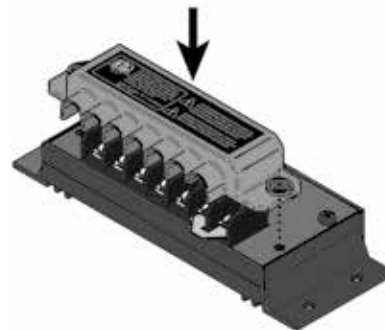

Figure 8b. Place the Terminal Block Cover.
Next, place the terminal cover over the terminal block as shown in Figure 8b. The cover mounting holes should align with the two (2) faceplate screw holes.